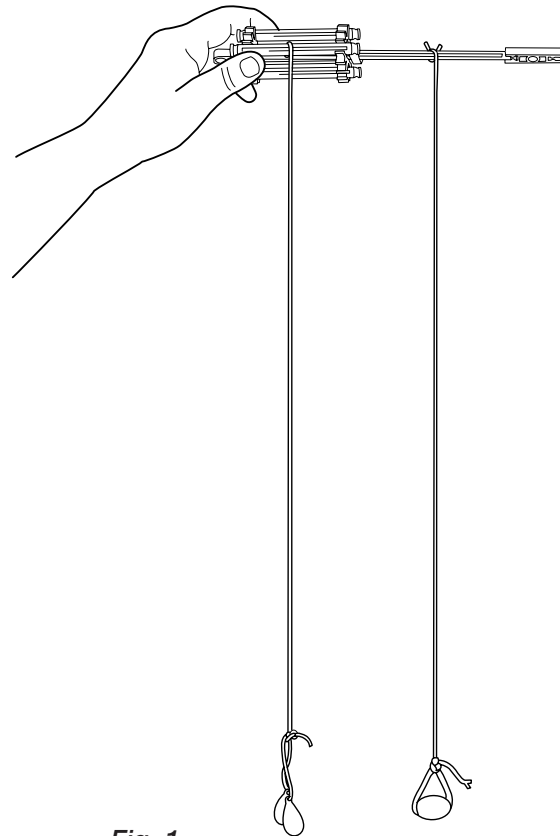

Fig. 1
2. Cut two 50 cm lengths of string. Tape one end of one string to the handle of the screwdriver. Tape one end of the other string to the axle of the screwdriver. Tie one weight to the end of each string. (See Fig. 1)